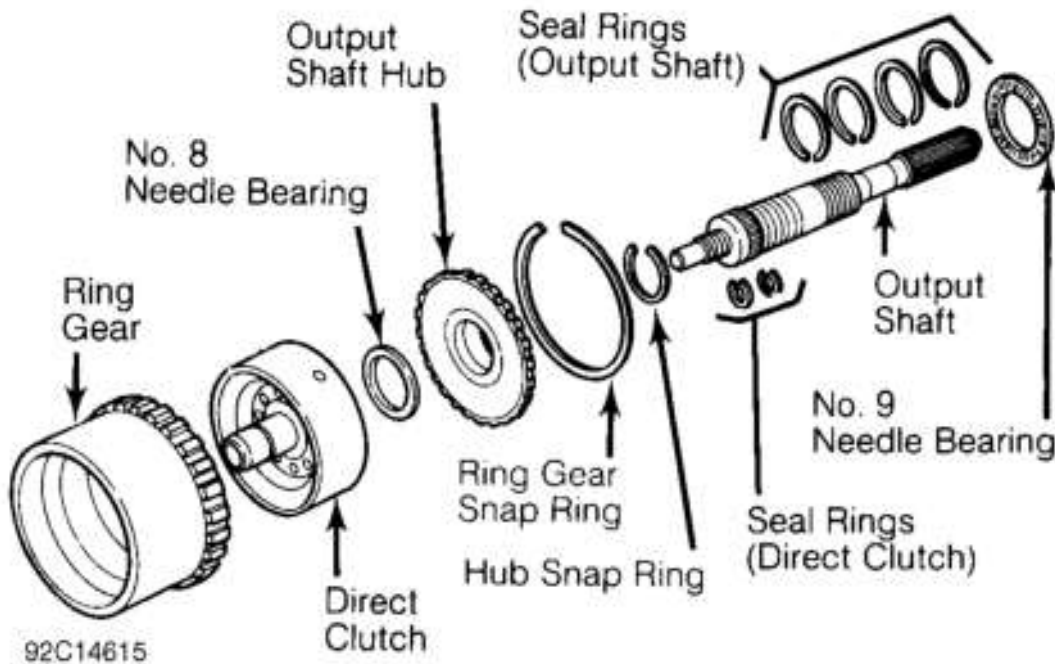

Fig. 32: Exploded View of Output Shaft Assembly
2. Remove 4 output shaft seal rings and hub-to-shaft retaining ring. Separate hub from output shaft. Remove 2 direct clutch seal rings from end of output shaft. See **Fig. 32** . To reassemble, reverse disassembly procedure.